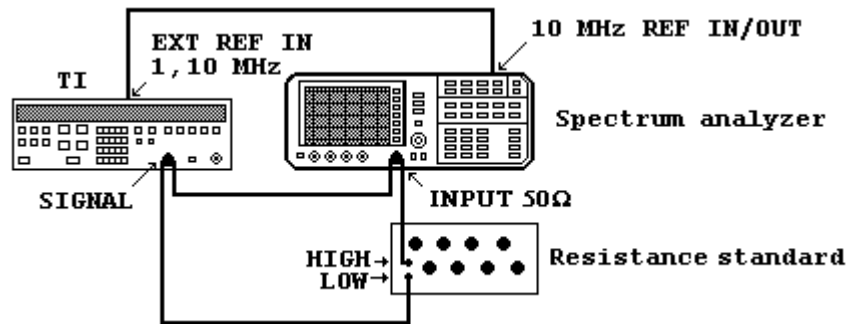

Figure 1. Harmonic distortion - equipment setup.
(13) Set audio analyzer to measure distortion in dB. Audio analyzer indication will be ≤ -65 dB.
(14) Perform (15) through (19) below for option 002 only.
(15) Connect equipment as shown in figure 1 and set resistance standard to 470 Ω .